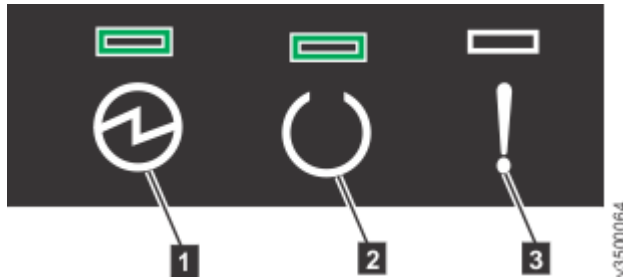

Figure 39. Expansion enclosure LEDs
2. From the rear of the rack, check the LEDs on each expansion enclosure (see Figure 39 on page 81).